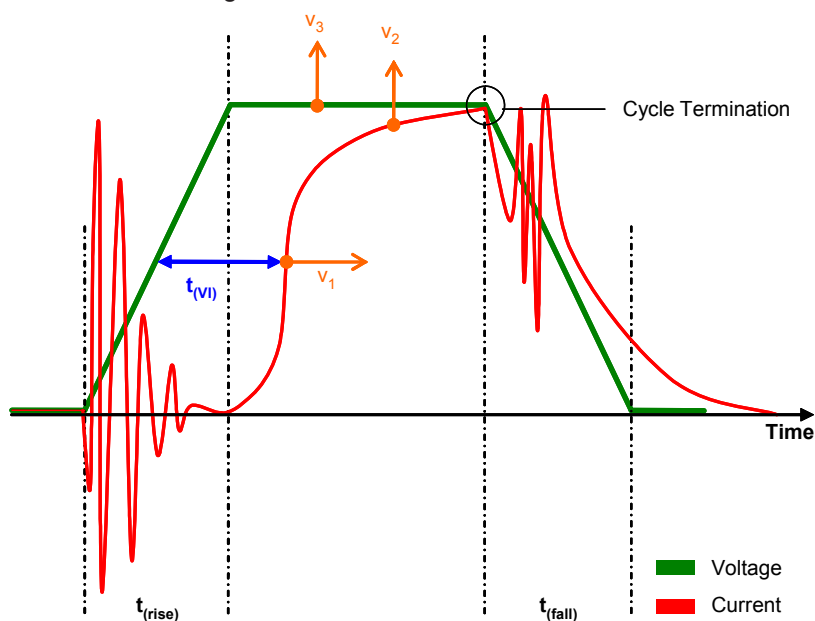
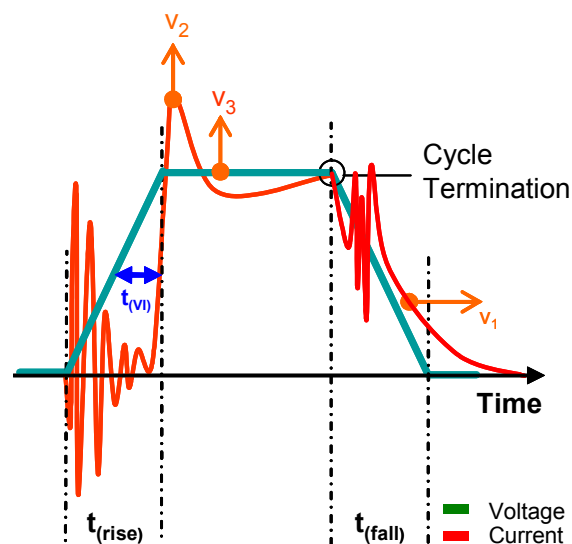
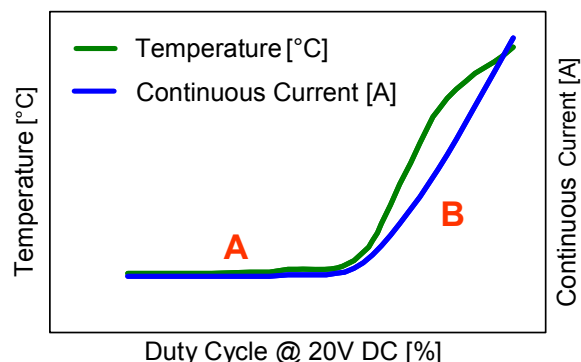

Figure 5: Characteristic of voltage and current during a PWM pulse in a balanced system
Figure 8. Voltage (green) and current (blue) during a PWM pulse over energizing a motor winding
Figure 9. Temperature and continuous current vs. PWM duty cycle during a stalled motor operation
Shown in Figure 5 are the characteristics of the voltage and current during a PWM pulse in a balanced operating situation. The rising and falling edges of the voltage are nearly linear within the period given by the time value for the raising and falling edges – typically 200 nanoseconds. The current characteristic depends on the technical parameters of the motor winding. The windings produce a reverse voltage when the rising edge occurs. The current reaches its maximum when the supply voltage and the reverse voltage are more or less equal. The resulting phase shift is represented by t_{vi} . When the supply voltage v_3 is being increased, the phase shift t_{vi} becomes wider as shown by arrow v_1 and the rising edge of the current v_2 appears later. The termination of the duty cycle shuts down the current immediately and always at the same point in time. So when the supply voltage increases, both curves change in the directions indicated by the arrows labeled v_1 and v_2 .
In these modes of operation, t_{vi} becomes smaller and a high current peak appears at the raising edge of the PWM pulse as shown in Figure 8. The more the supply voltage v_3 increases the higher the current peak v_2 will be. This current peak can reach multiples of the continuous current.
The plots in Figure 9 depict the relationship between duty cycle, continuous current and temperature at a supply voltage of 20 V DC.
By separating the performance graph in Figure 9 into two parts, the balanced operation (A) and the over energized operation (B) can be better analyzed. During balanced operation, the current and voltage waveforms follow the relationships shown in Figure 5. The phase shift t_{vi} increases so that the continuous current and temperature increase only slightly. When the motor winding starts being over energized (B), t_{vi} decreases rapidly as shown in Figure 8. The current peak at the rising edge of the PWM cycle increases the total average current and the thermal load. Over energized conditions normally happen in the 60-70% duty cycle range. This range corresponds with the knee of the curves in Figure 9. The exact point is dependent on both the quality of the motor and the operating condition. The operating condition with the expected maximal thermal load and its maximal time interval is the basis for the selection of the best mounting technique and heat sinking method.